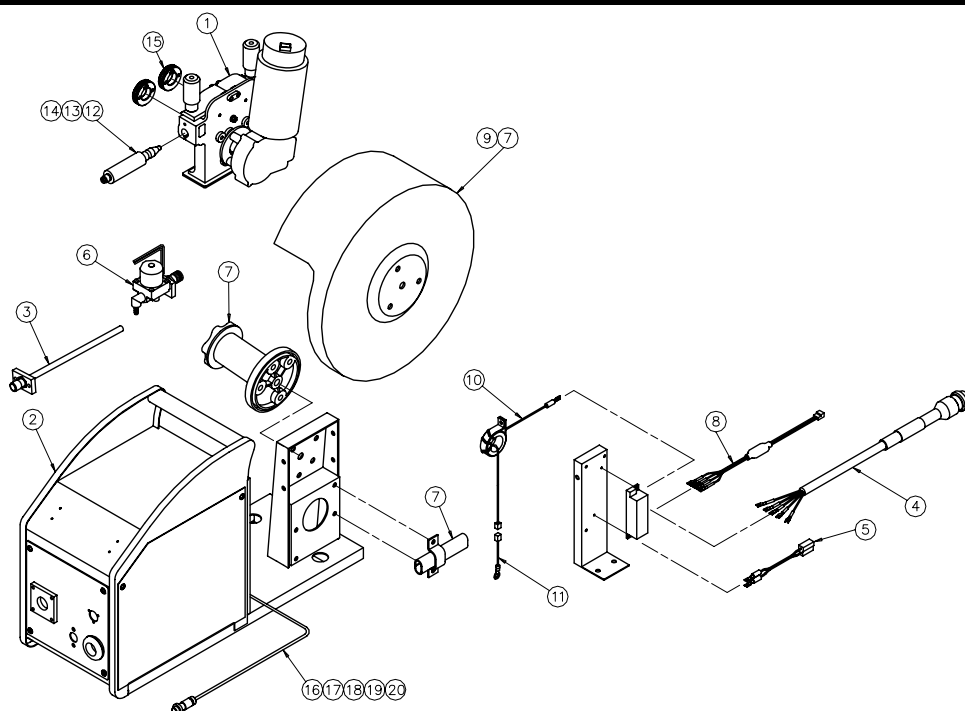

Fig. 5.1 Exploded diagram of wire feeding unit (AFF-4001)
- If the parts are getting worn out or damaged while using the wire feeding unit, see Fig. 5.1 ~ 5.6 and Table 5.1 ~ 5.7 to place an order with our sales office or agent. When ordering, be sure to provide the item name and part No. Note that the component indicated by () for its quantity is an optional item.